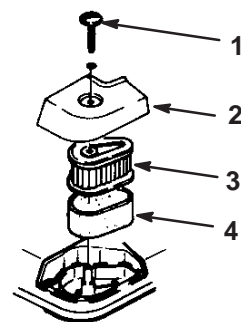

Figure 21
3. Remove the bolt that secures the air cleaner cover (Fig. 21).
4. Remove the cover and clean it thoroughly (Fig. 21).
5. Remove the foam pre-cleaner and wash it with a mild detergent and water, then blot it dry (Fig. 21).
7. Remove the paper air filter and discard it (Fig. 21).